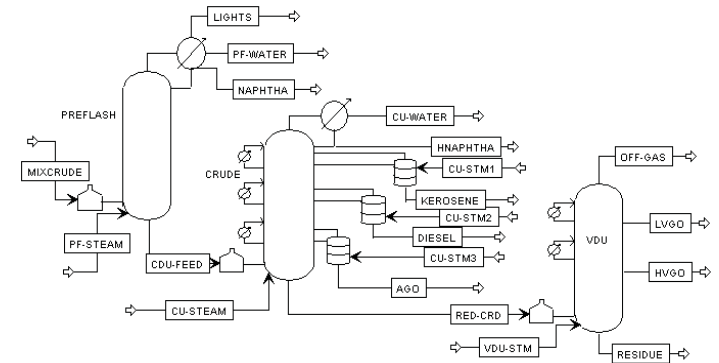

Figure 4.1 Process Flowsheet Adding a Vacuum Unit
Figure 4.1 shows the process flowsheet for this simulation. It contains a vacuum unit that separates the reduced crude from the atmospheric tower into:
Next, place and connect the vacuum unit on the flowsheet to create the process flowsheet in Figure 4.1. If you need to review how to create a graphical simulation flowsheet, see *Getting Started Building and Running a Process Model*, Chapter 2.
- 4 Select the VACUUM1F PetroFrac icon, and drag the icon to the **Process Flowsheet** window as shown in Figure 4.1.